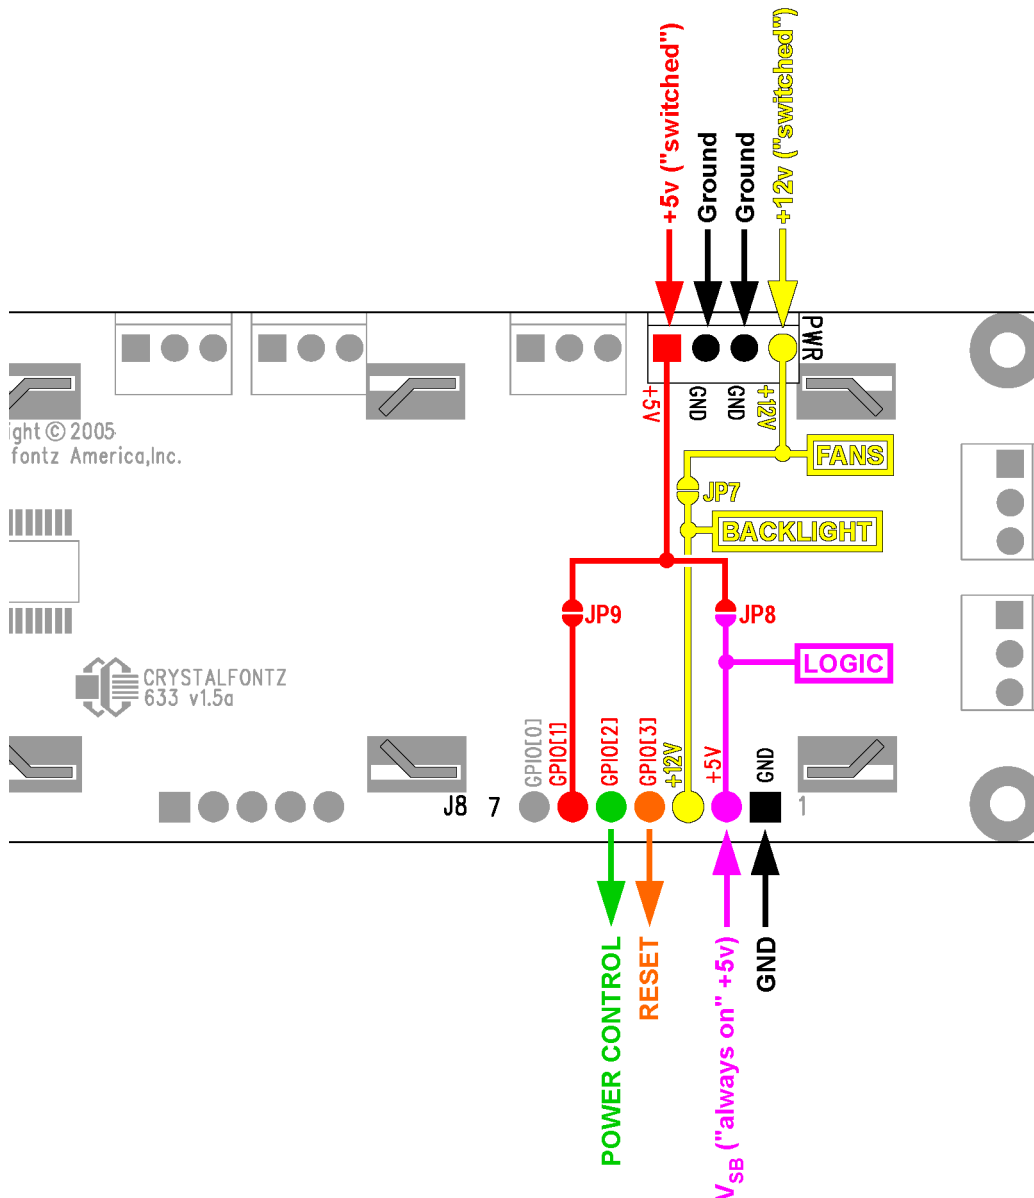

Figure 5. CFA633-RMC-KS ATX power supply and control connections
*JP7 must be opened for the operating range of +12v fans to be different from +12v backlights (listed in this table). If JP7 is closed (which is the factory default), then the voltage specification range for backlights must be observed for both backlights AND fans. Please see Figure 5. on Pg. 19.